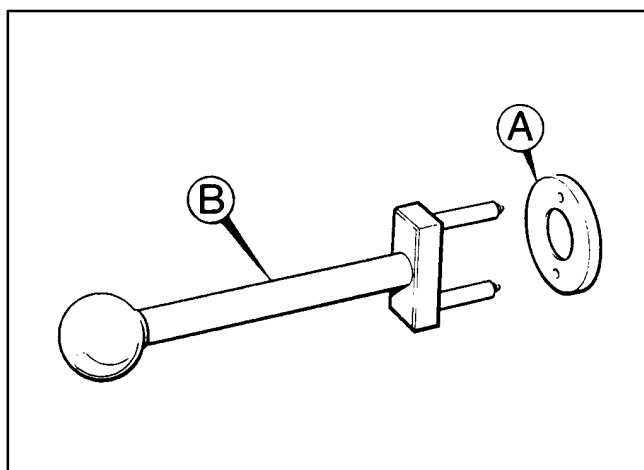

FIGURE 8-7. VALVE SPRING COMPRESSOR
2. Place the adaptor (Figure 8-7, Item A) on the valve spring carrier with the two indentations facing outwards.
7. Fit the adaptor (Figure 8-7, Item A) over the valve spring carrier with the two indentations facing outwards.